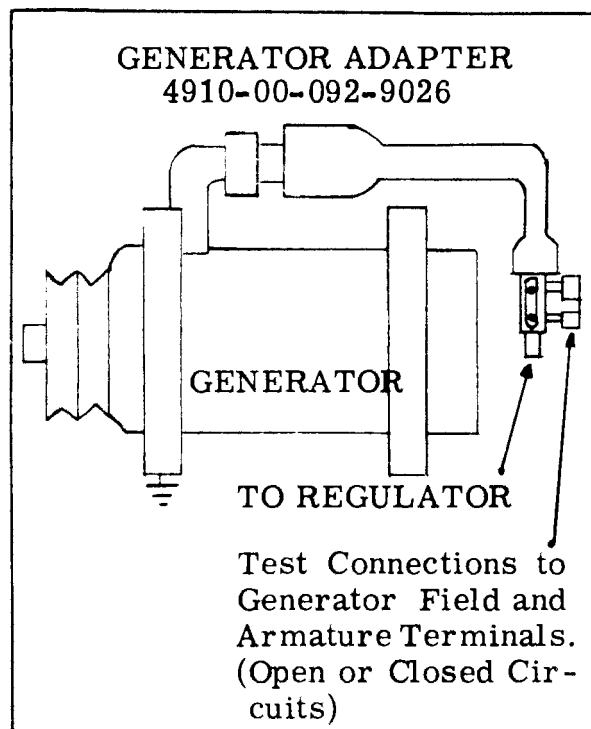

Figure 1. Generator adapter (4910-00-092-9026).
- (1) Disconnect generator cable at generator and plug generator adapter into socket.
- (2) Reconnect generator cable to free end of generator adapter (fig 1).